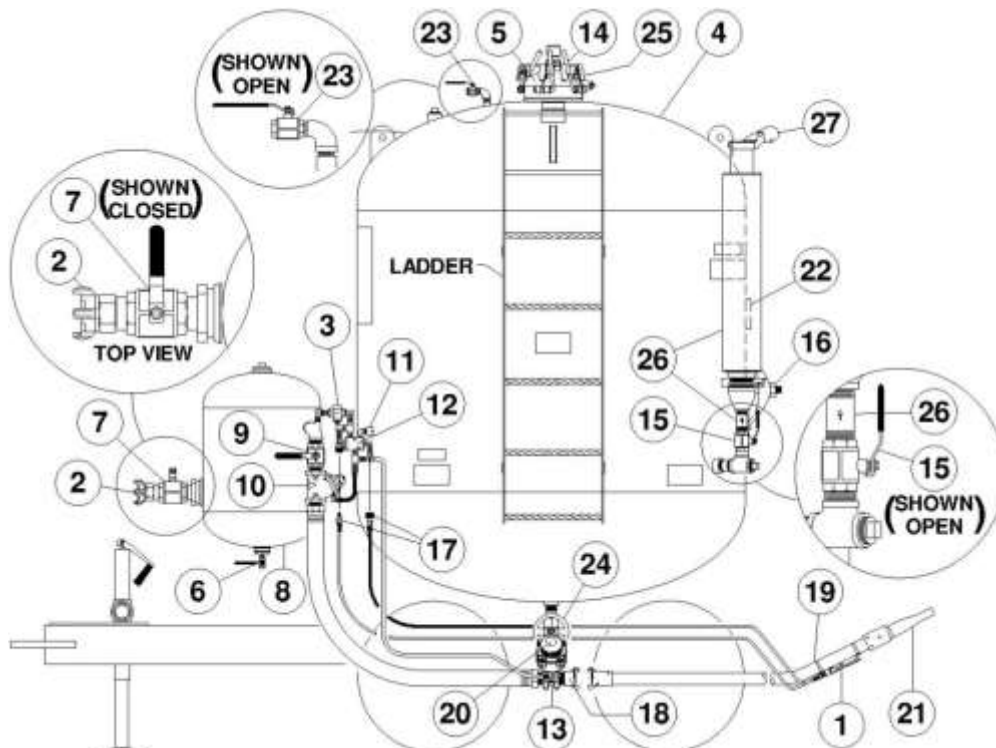

Figure 6.2 – Typical Bulk Abrasive Blaster
6.1. Bulk Abrasive Blaster Setup Procedure (see Figure 6.2 or Figure 8.7).
- 6.1.5. Do Not operate this equipment without the pressure indication ball valve (#23) in place. This is an added feature that allows the operator to verify that the bulk abrasive blaster is completely depressurized before attempting to open the closure. See Figure 6.2.
- 6.2.1. Close the air inlet ball valve (#7). The ball valve is closed when the handle is fully turned to the position shown in Figure 6.2 (handle perpendicular to body). The handle tab will bottom against the ball valve body in the closed position.
6.3. Closure Assembly Opening Procedure (See Figure 6.2, 6.3.1 and 6.3.2).
6.3.1. Taking the proper fall protection measures, access the closure (#5) using the bulk abrasive blaster ladder. See Figure 6.2.
6.3.2. The bulk abrasive blaster MUST be completely depressurized before attempting to open the closure assembly (See Section 6.2). Verify that the abrasive blaster is completely depressurized by opening the pressure indication ball valve (#23) next to the closure (see Figure 6.2). If any air leakage occurs, DO NOT CONTINUE. Follow the depressurizing procedure in Section 6.2. DO NOT depressurize the bulk abrasive blaster through the pressure indication ball valve (#23).